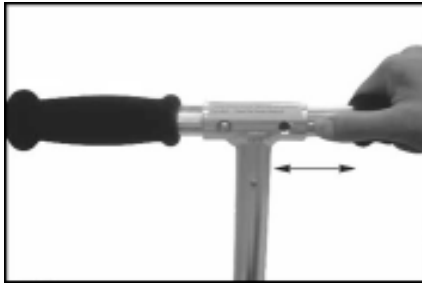
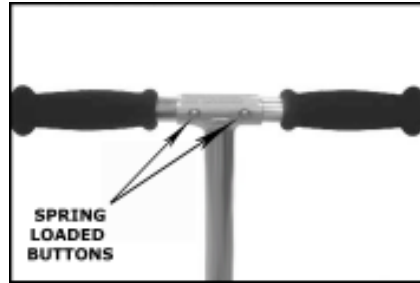

Figure 1
Figure 2
A. Insert and secure the left and right handlebars by pressing the spring loaded buttons and inserting them into the T-tube (Figure 1). Make certain the spring loaded button engages the hole in the T-bar for each handlebar (Figure 2).
Failure to properly engage the spring loaded buttons may cause the handlebars to dislodge while riding and may cause you to lose control and fall. When correctly engaged the handlebars will not rotate nor will they move sideways. Note that when properly engaged, the spring loaded buttons are clearly visible in the holes in the T-tube (Figure 2)